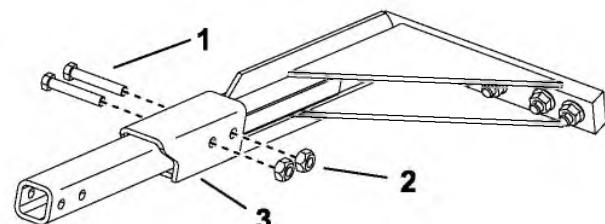

Figure 5
4. If you have a boom over 61 cm (2 ft), secure the safety-bar extension (supplied with the boom) over the end of the safety bar and secure it using the 2 bolts and locknuts supplied with the extension (Figure 5).